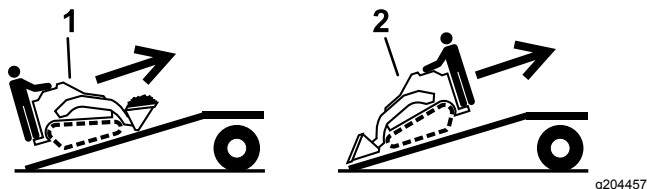

Figure 20
5. Load the machine onto the trailer with the heavy end up the ramp, carrying loads low (Figure 20).
1. Lower the ramp (Figure 20).